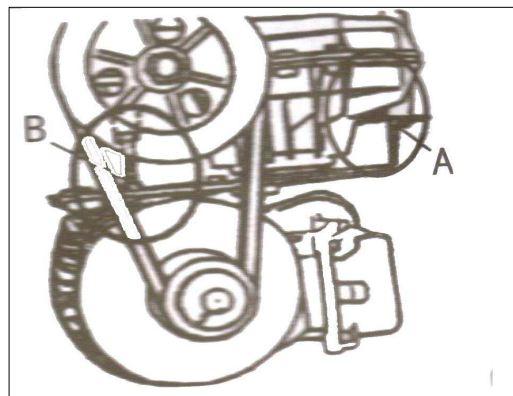

Fig. 28
- Periodically check and adjust the tension of the driven belt. Properly adjust the adjust nut in A and B to realize the proper tension. (Fig. 28).